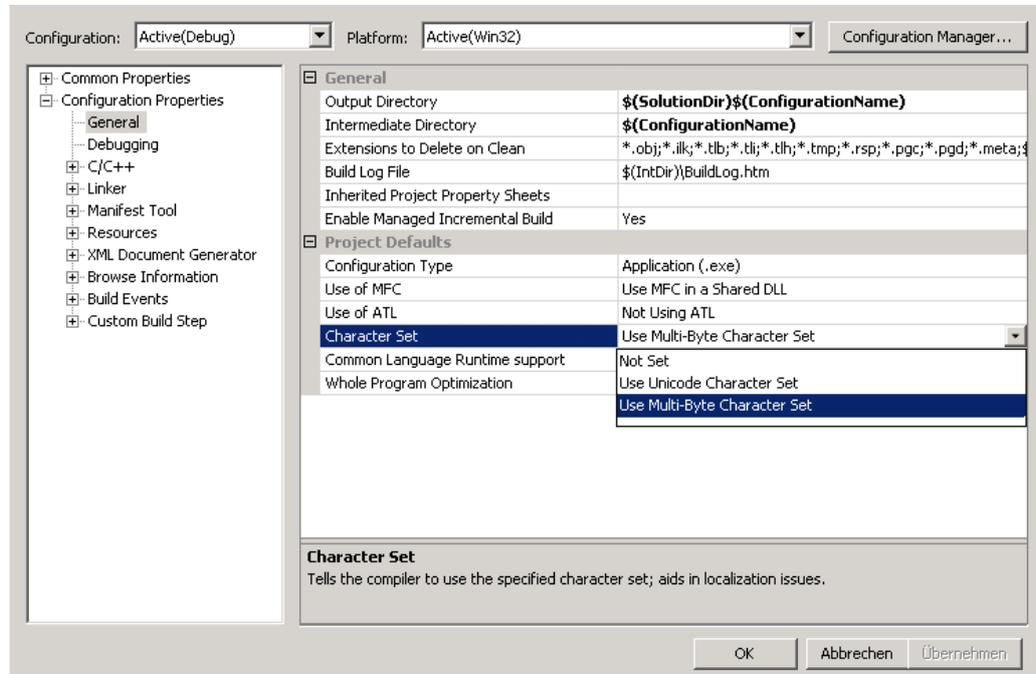

Figure 11: Correct character settings for Visual Studio 2008
**Solution:** Correct your character settings in your Visual Studio Project properties (see Fig. 11).